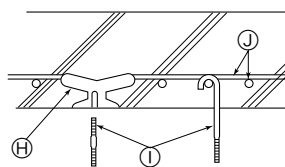

Fig. 2-5
### ② Ferro-concrete structures (Fig. 2-5)
- ① Suspension bolts M10 (3/8") (procure locally)